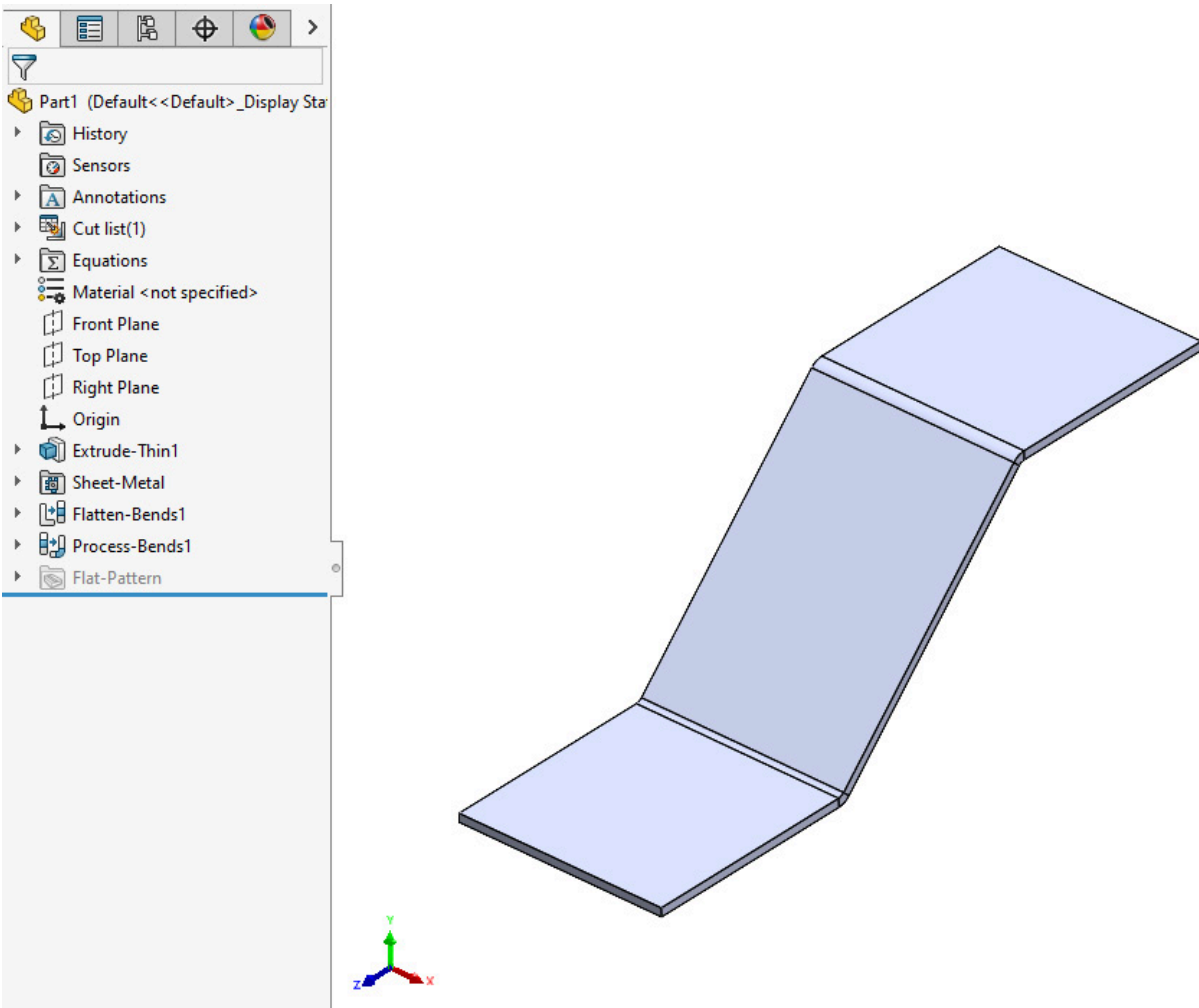

Figure 11.11: The model is converted to a Sheet Metal part
6. Press the green **OK** check mark to create the feature. It can now be seen that the model is converted to a Sheet Metal *part* and the Flatten Bends and Process Bends features are added to the FeatureManager Design Tree. Note that even though we sketched a profile with sharp corners, these have automatically been converted to 2 mm bends (Figure 11.11), according to the Bend Radius value that we set in Step 5.